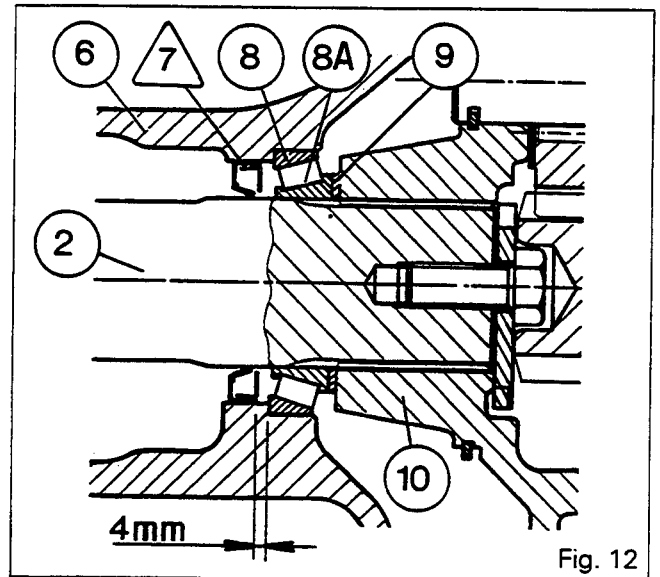

Fig. 12
So that the seal lip is not in the same place on the shaft, press on the seal until it is 4 mm from the shoulder of the cup (8) (Fig.12).